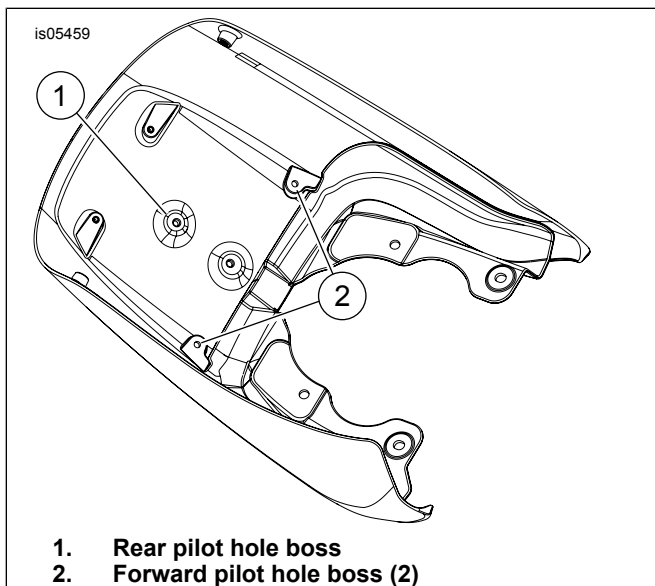

Figure 2. Inside of Fender
1. See Figure 2. Apply masking tape to the outside painted surface of the fender at the three hole locations (1 and 2). This will protect the painted surface during the drilling operation.
3. See Figure 2. Use a 1/2-inch spade bit or 1/2-inch unibit (do **not** use a spiral-type drill bit) to drill three holes from the inside of the fender through the three pilot hole bosses (1 and 2). Stop drilling when the tip of the bit just pierces the outside surface of the fender.